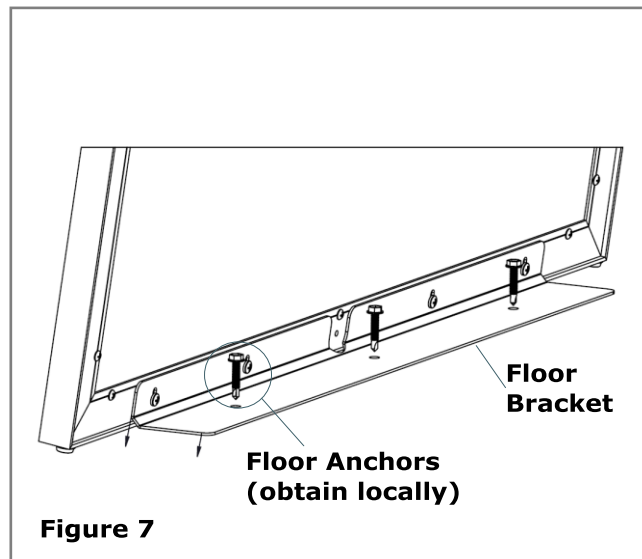

Figure 7
6. With the mirror joined at the top to the wall, check position of the mirror to the wall and adjust if needed. Now fasten the floor bracket to the floor using the correct floor anchors (obtain locally). **(See Figure 7)**
See Figure 7.